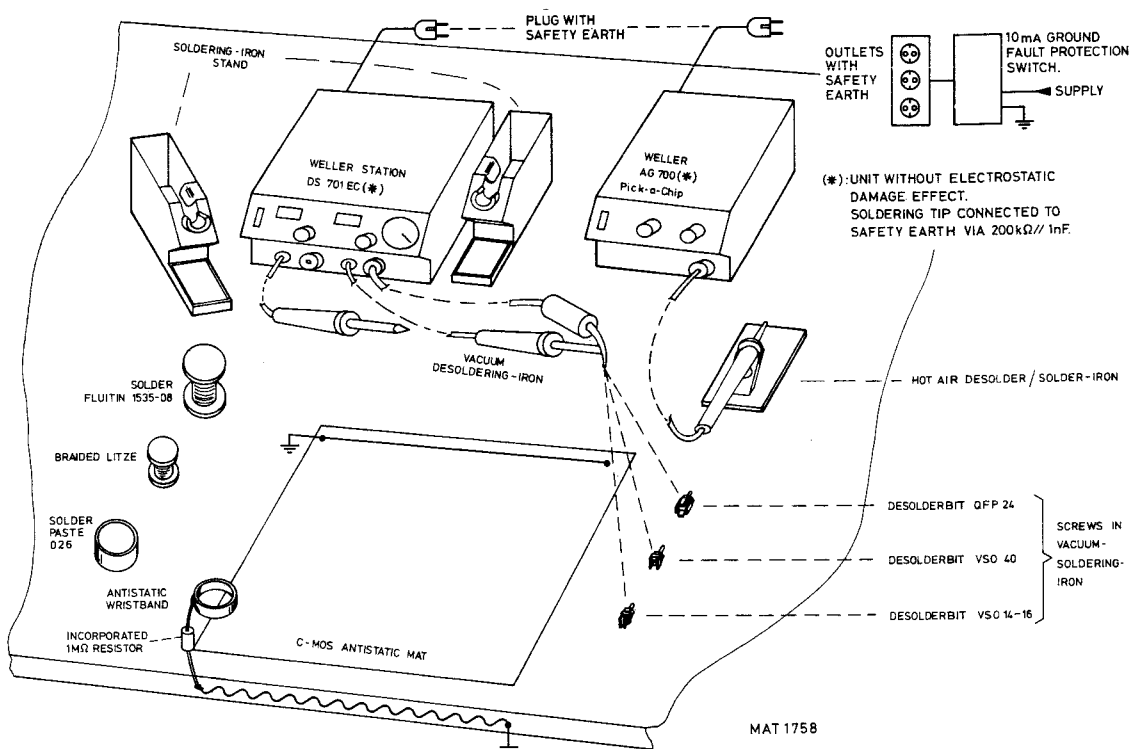

Figure 23.1 Arrangement of working area for S.M.D. exchange and MOS device
- how to arrange the S.M.D.-workshop. (see figure 23.1).
- Protection against E.S.D.: since the working area must be suitable for repair of MOS-devices, some precautions must be taken (see figure 23.1). All repairs must be done earthed which means that the repair surface, the soldering iron and the technician must be connected to the earth potential. This is achieved by using a C-MOS antistatic mat that must be connected to earth. The service-technician is connected to earth by wearing an antistatic wristband.
- For an optimal supply of heat a working area must be used that does not lead away the heat: the antistatic mat in figure 23.1. meets this requirement.